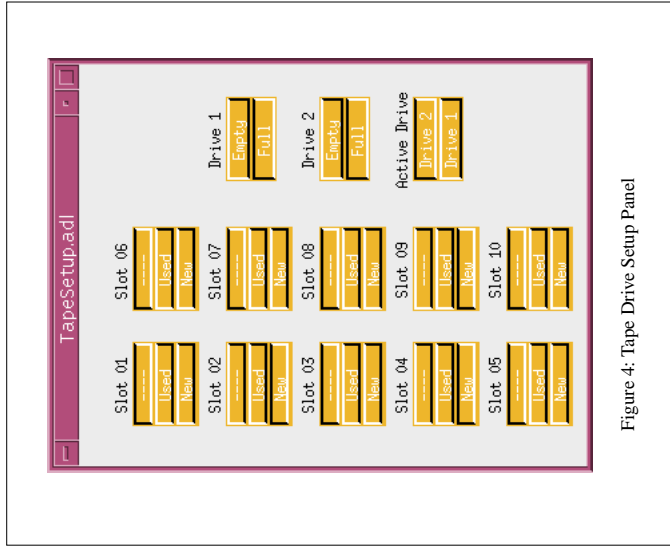

Figure 4: Tape Drive Setup Panel
- Selecting the icon directly beneath the "Tape Status" text on the screen. This menu will open to "Tape Config". Selecting this will bring up the display of Figure 4.